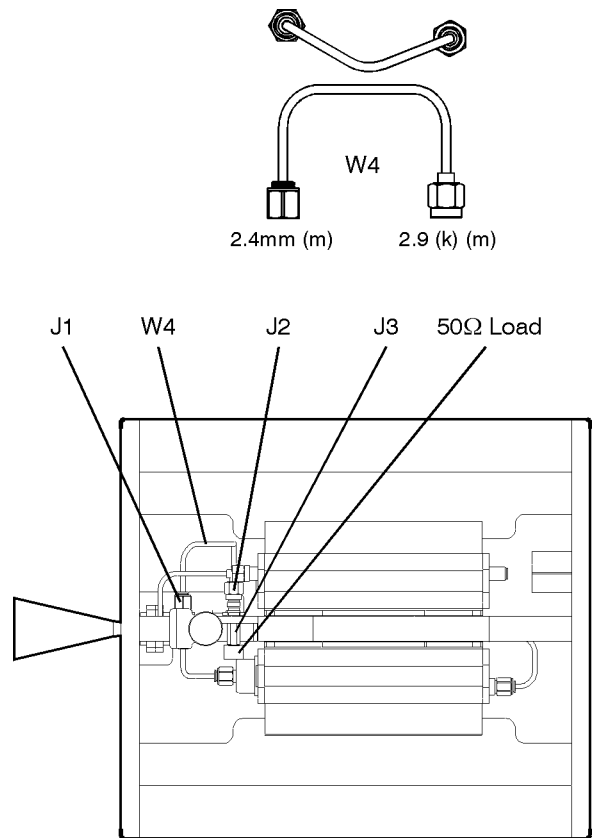

Figure 3-8. DANL Measurement Setup, 18 to 40 GHz
1. Connect equipment as shown in Figure 3-8.